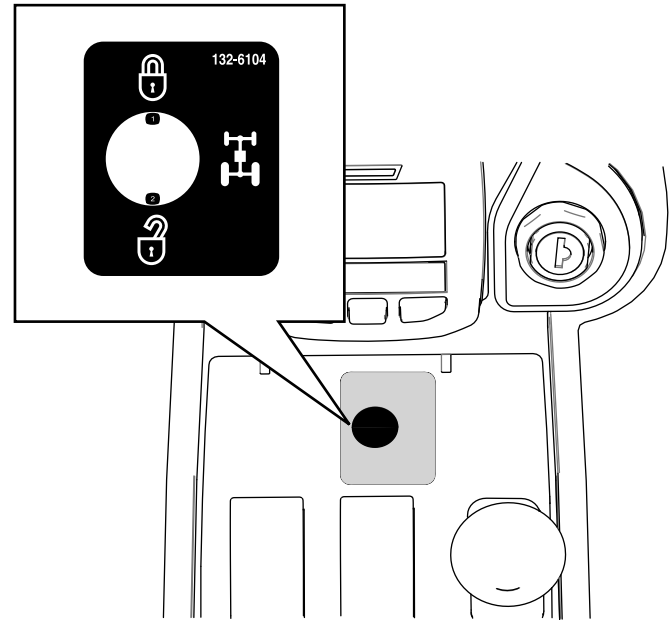

Figure 16
2. Place the 4WD function decal over the drilled hole (Figure 16).